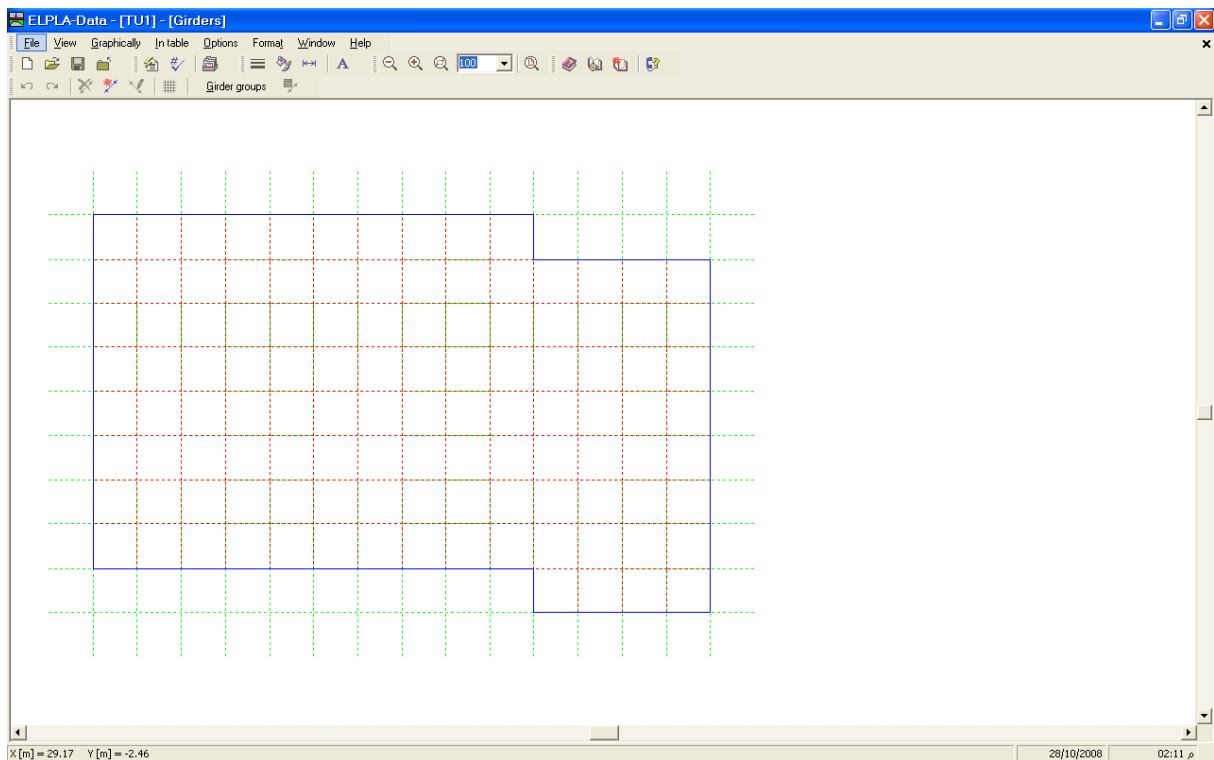
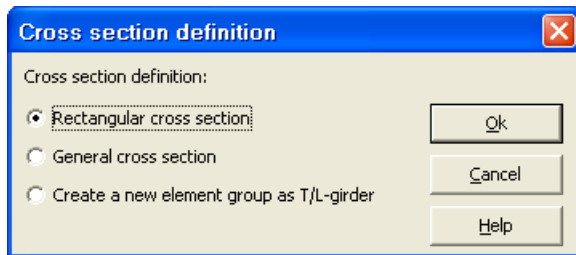

Figure 13-15 "Girders" embedded program
Figure 13-16 "Cross section definition" option box
To define the external walls, choose "Girders" command from "Data" menu of *ELPLA-Data*. The following embedded program in Figure 13-15 appears.
- Choose "Girder groups" command from "In Table" menu in Figure 13-15. The following option box in Figure 13-16 appears
- Choose "Add girders" command from the "Graphically" menu in Figure 13-15. When "Add girders" command is chosen, the cursor will change from an arrow to a cross hair